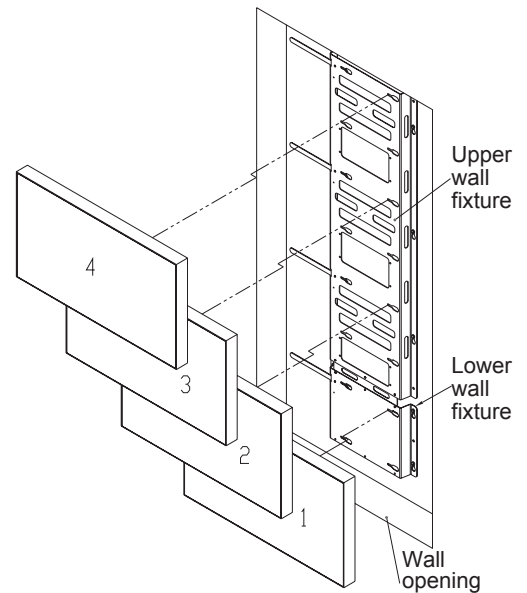

Figure 10
Step 10: Install 2nd monitor using the same process as step 9. Adjust 2nd monitor's adjustable VESA buttons to make the front flushed with the first (bottom) monitor. Repeat process for the 3rd and 4th monitors (Figure 10).